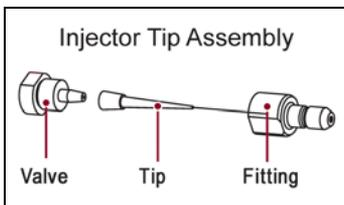

Figure 16
3. Remove the injector tip assembly. (See Figure 16.) Do not discard.